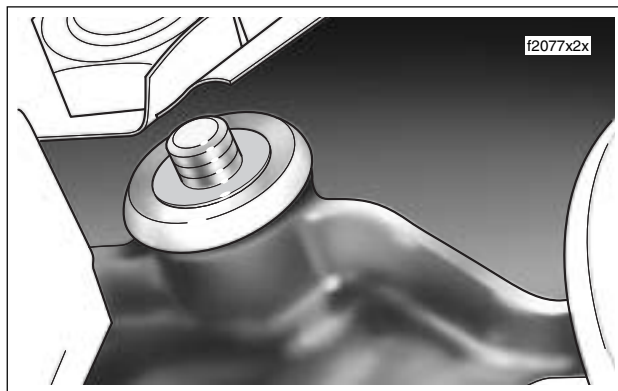

Figure 2-122. Remove Flat Washer and Upper Cup Washer (Right Side)
4. Remove lower handlebar clamp, flat washer and cup washer at top of upper fork bracket. See Figure 2-122.
5. Install cup washer over threaded end of bolt fitting concave side over collar of bushing. Install flat washer. See Figure 2-122.